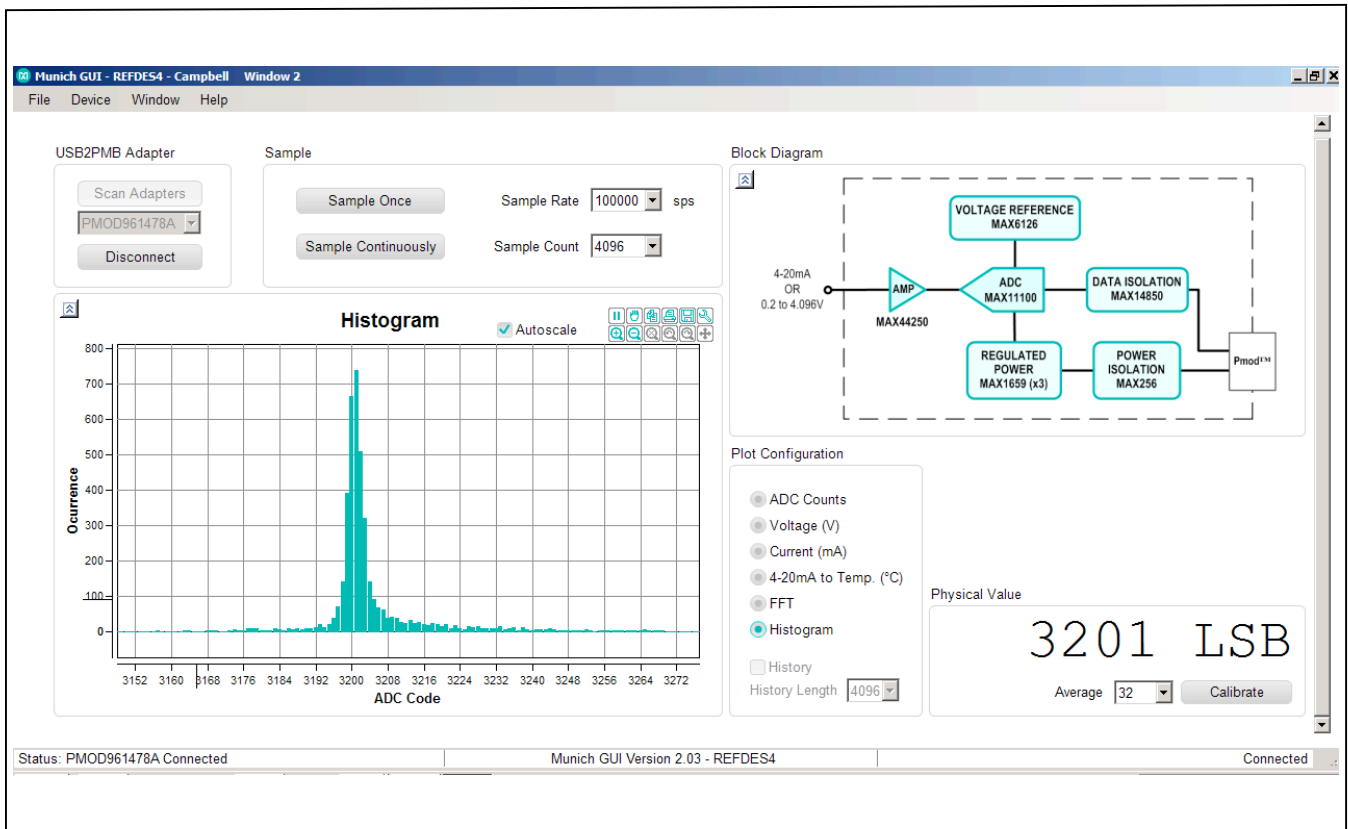

Figure 10. "Histogram" Display on Munich/Campbell GUI
- Histogram:** This option allows user to view the resultant output in Histogram (Figure 10). The X-axis is ADC code and the Y-axis is the number occurrence.